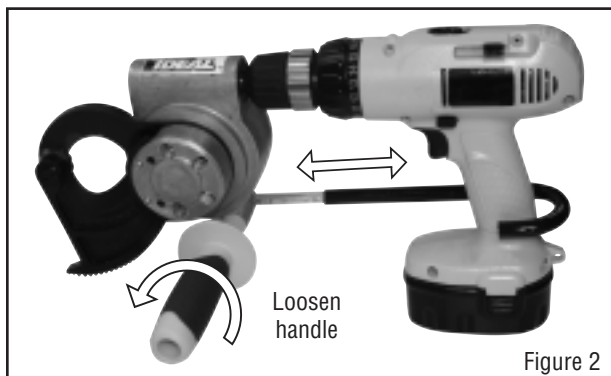

Figure 2
STEP 2: Loosen handle so torque arm extends freely (Figure 2).